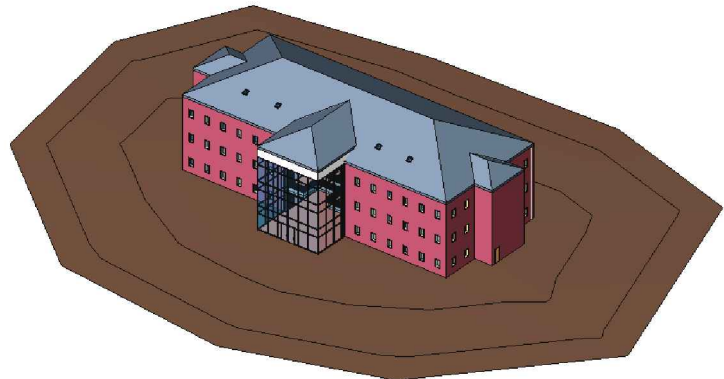

Figure 13-1.7 Toposurface seen in 3D view
12. Switch to the **3D view** to see your new ground surface (Figure 13-1.7).